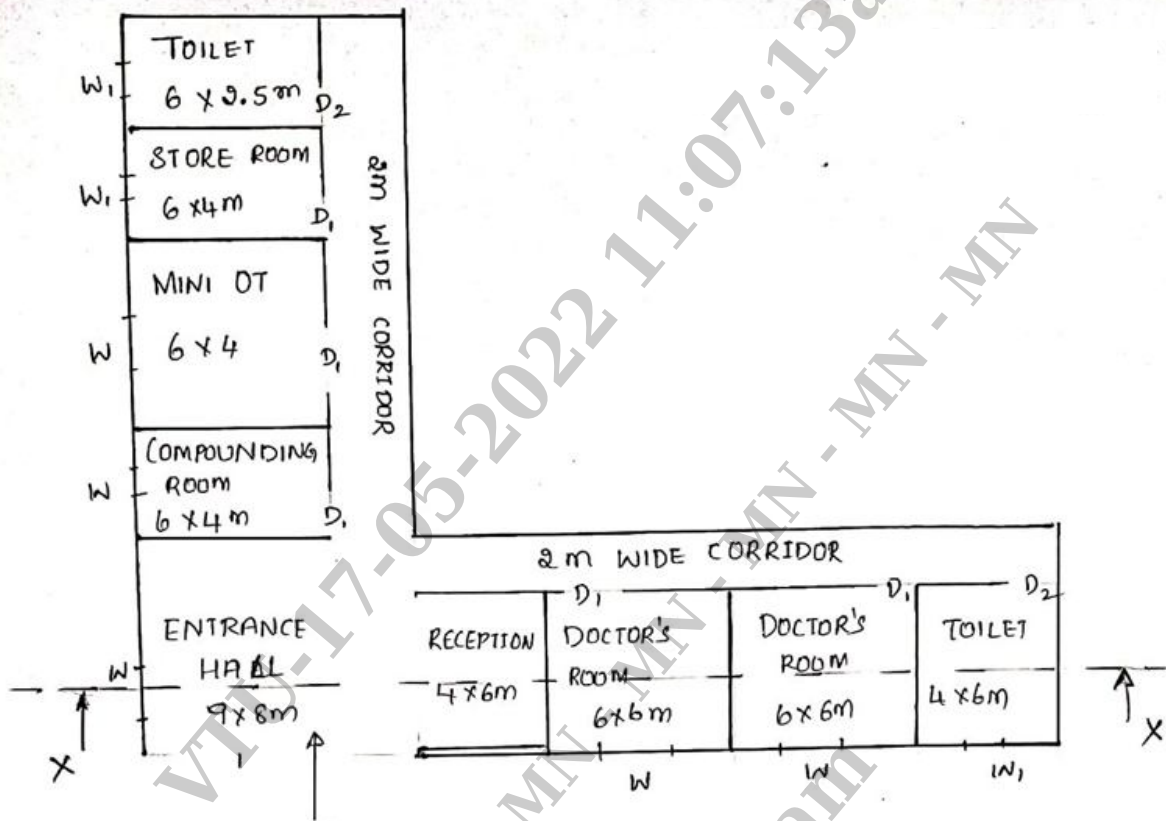

Figure Q5
- Q5 Line diagram of Hospital building is given in Figure Q5. Draw to scale the following: